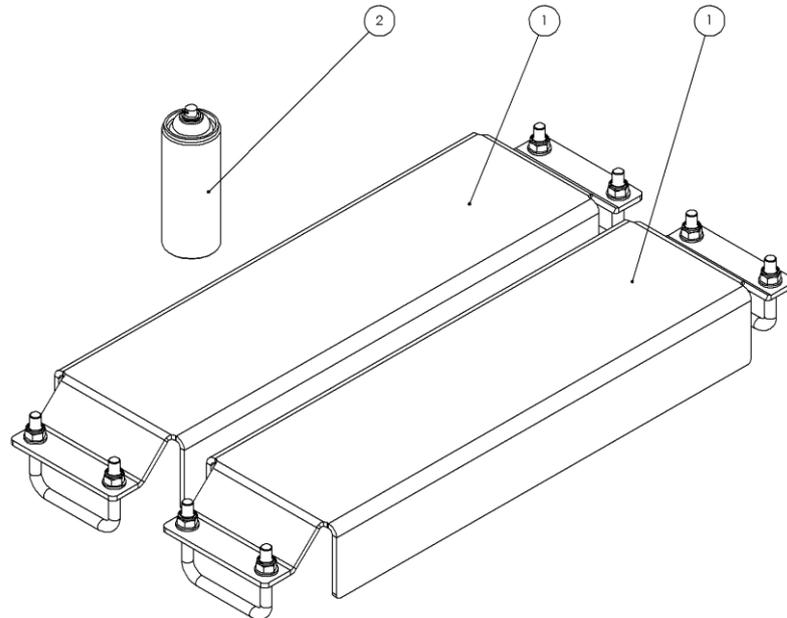

Figure 1 - 0510-0022
Overview: Kelly is always seeking to improve its machines and designs in collaboration with our customers. Commencing June 2023 all new Model 4012 machines will be shipped with rear 'A Frame' (1540-03-3) guards. See item 2 figure 1 below. It has become evident that in some situation's discs contact the rear 'A Frame' causing damage. The provided parts will repair and prevent this issue from occurring on your machine.